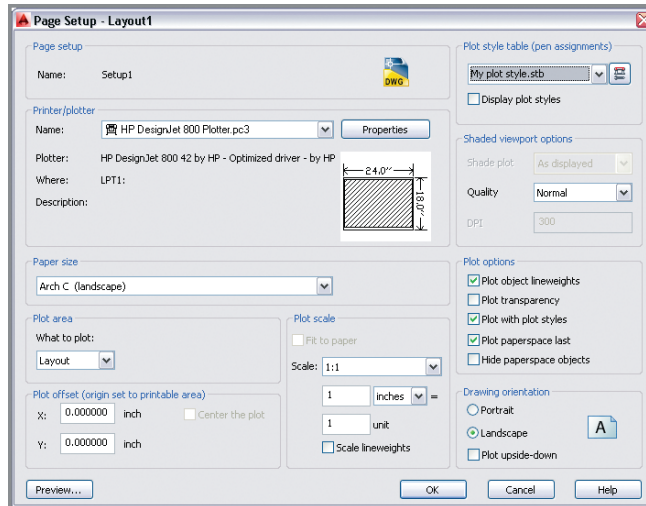

FIGURE 14.27 Configuring a new layout in the Page Setup dialog box
- In the Page Setup dialog box that appears, click the Modify button, open the Name drop-down menu, and select HP DesignJet 800 Plotter.pc3. Then select Arch C (landscape) in the Paper Size drop-down menu. Select My plot style.stb in the Plot Style Table drop-down menu (see Figure 14.27). Click OK.